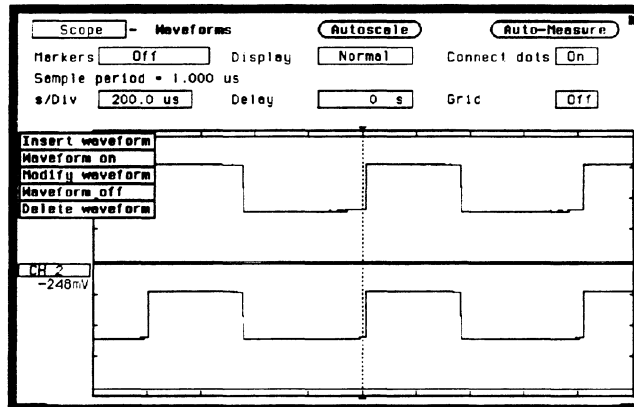

Figure 23-9. Waveform Selection Pop-up menu
1. Select the CH 1 input label. A waveform selection pop-up appears as shown in figure 23-9.